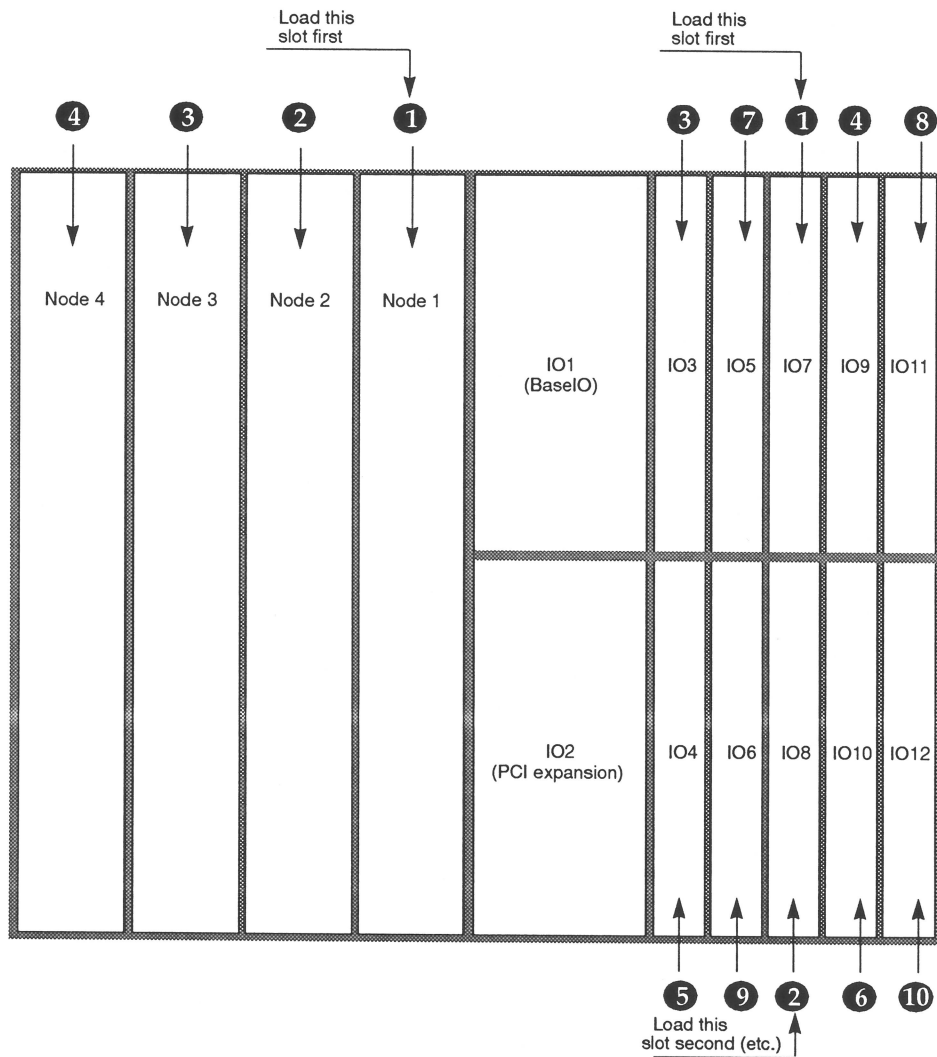

Figure 5 Installing Node and XIO Boards in a Module
- **Installing Node boards in a single-module system**—When filling a single module, install the Node boards from center outward, starting at slot N1. Then add N2, N3, and finally N4, as shown in Figure 5.
- If there is more than one Node board in the module, fill the XIO slots as described in Table 1 and shown in Figure 5, so that XIO boards are spread as evenly as possible across the system.
| Node boards | <ol style="list-style-type: none">1. Add Node boards to a module until that module is full, starting with slot N1, then N2, N3, and finally N4. This is the order shown in Figure 5.
| XIO boards | <ol style="list-style-type: none">4. Divide the remaining XIO boards evenly among the modules. Use the order described in Table 1 and shown in Figure 5, keeping in mind the number of Node boards installed. (In other words, if you have only Node 1 installed, do not install any XIO boards in slots IO7 through IO12.) |